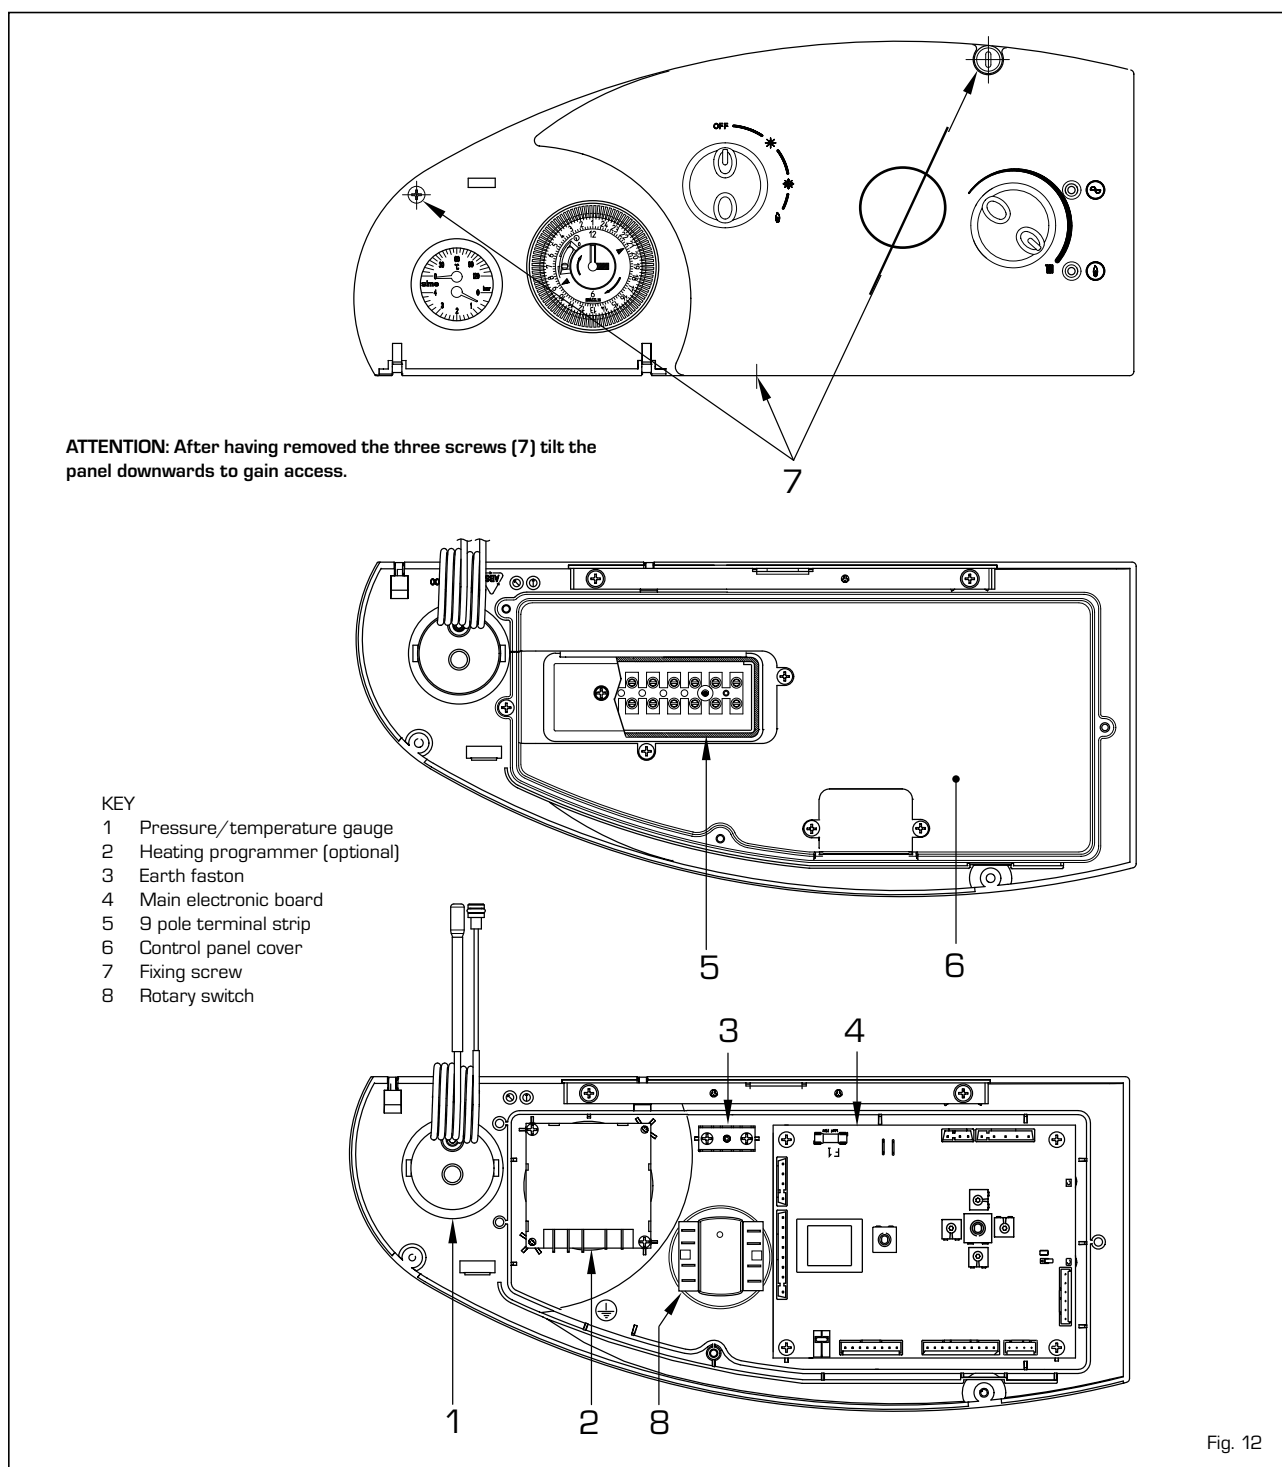

Fig. 12
2.8.1 Electrical board (fig. 12)
2.8.2 Room thermostat (fig. 12)